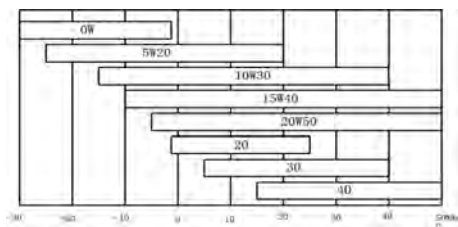

Figure 7 Selection of Oil
5.2 External Static Characteristics of Power Supply (see Fig. 7)
Only use the high quality lubricating oil specified in Fig. 7 (SAE viscosity grade recommended)